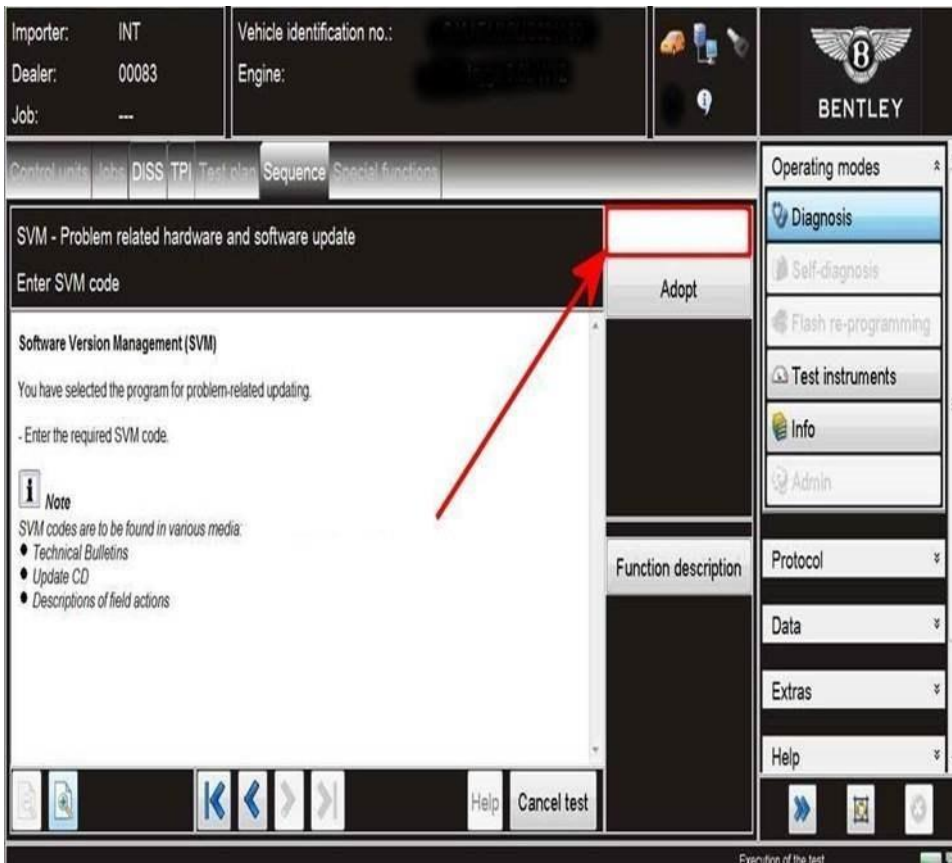

Figure 2
2) On the next screen enter SVM code 37002GB01 (Figure 2)